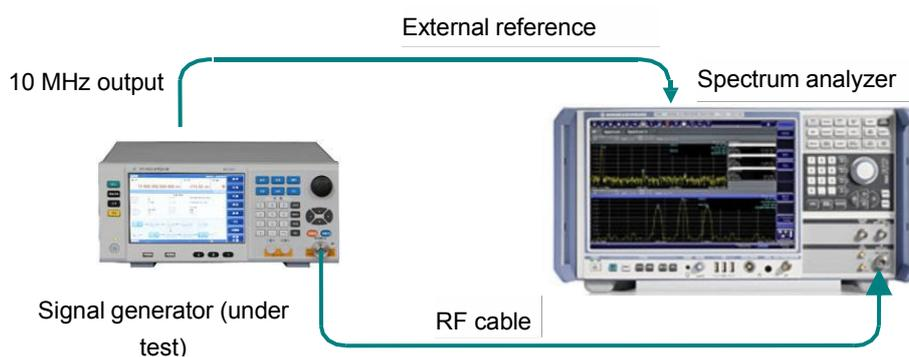

Figure 7.6 Small amplitude test
2. Connect the spectrum analyzer to the signal generator as shown in Figure 7.6, set the amplitude of the signal generator to 0dBm, set the level to the reference one; set the amplitude value of the signal generator to the min. fixed